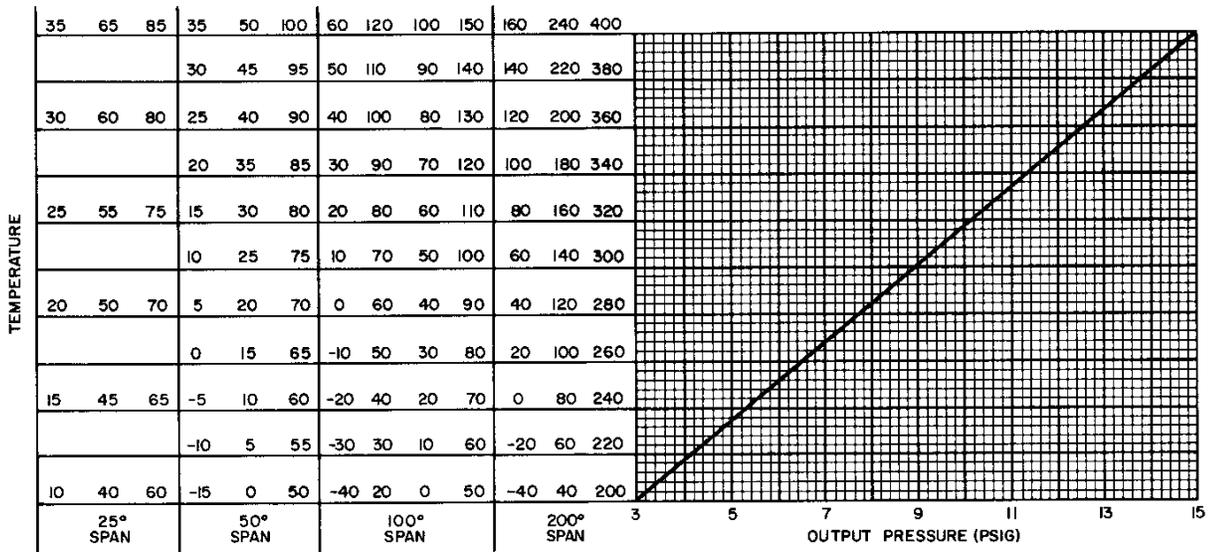

Fig. 17: Temperature vs Output Pressure
2. From the graph in Fig. 17, find the proper transmission pressure corresponding to the measured temperature. Be sure to use the vertical scale on the graph which matches the range of the transmitter.